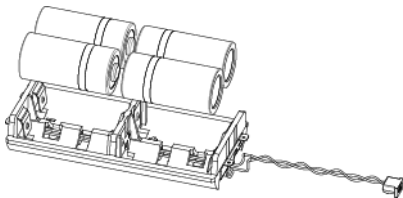

Figure 11
3. Insert the new battery while observing battery polarity (*see Figure 11*).
4. Insert the new battery while observing battery polarity (*see Figure 11*), and close the battery compartment cover.